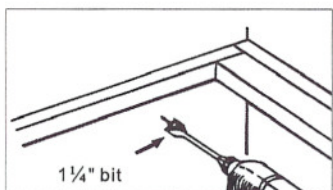

Fig.8
1. After turning off the proper 120 volt circuit at the service entrance, drill out the electrical power line access hole marked on the cabinet bottom or wall. Use a 1 ¼ " wood bit. To operate the electric drill, use an extension cord connected to another circuit. (Fig.8)